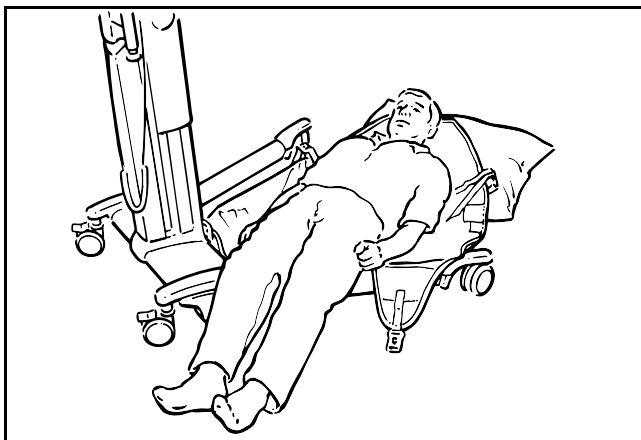

Fig. 32
Put the sling around the patient, by rolling or sitting the patient up. Open the chassis legs first, then approach and lift the patient's legs over the chassis as shown in Fig. 32.
**CAUTION:** While the patient is positioned over the legs as shown in Fig. 32 DO NOT operate the adjustable chassis leg controls.